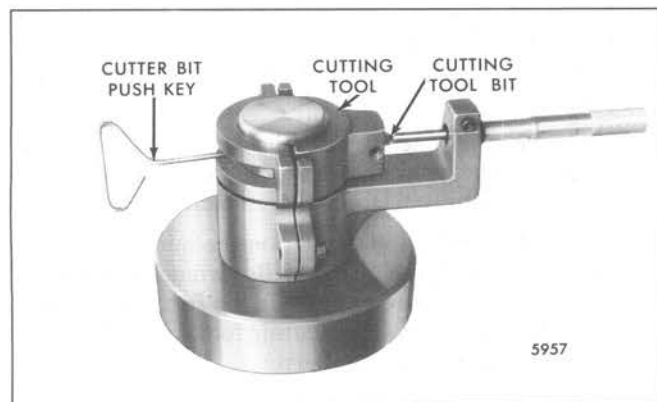

Fig. 4 - Installing Cutting Tool Holder
8. Install the cutting tool holder on the micrometer test fixture. Use only the straight Allen wrench supplied in the kit. Set the cutting tool for the first cut of .040" (Fig. 4). The point of the cutting tool should be in the center of the micrometer barrel.